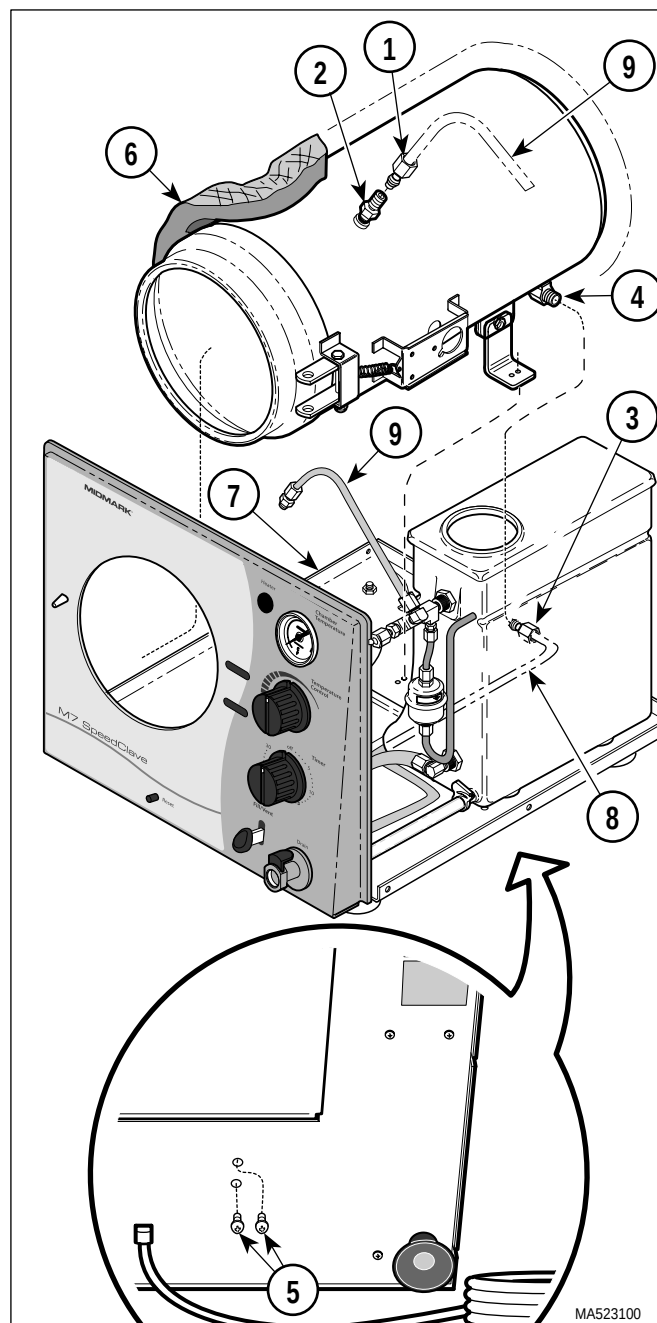
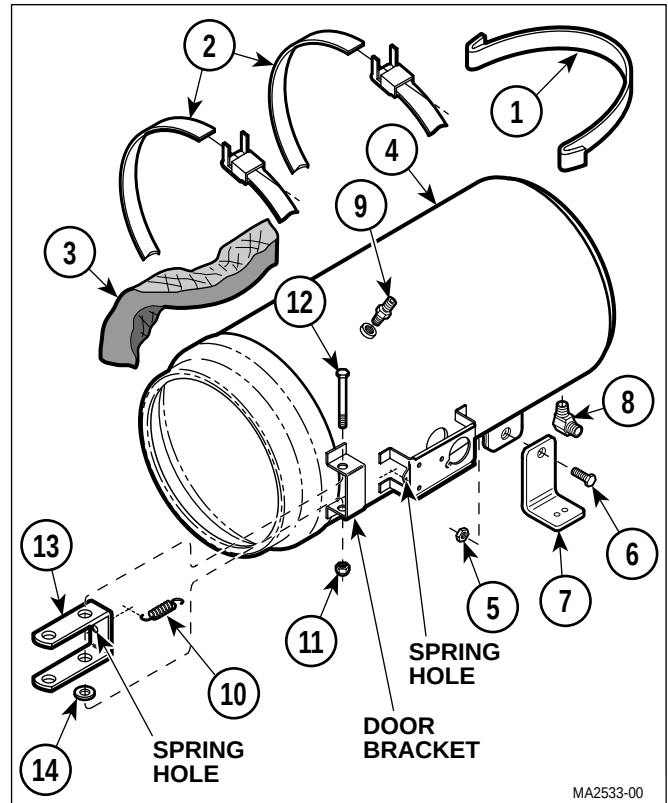

**Figure 4-21. Chamber Assembly
**Figure 4-22. Chamber Assembly
- (6) Remove temperature regulator relay (Refer to para 4.8).
- (7) Remove diaphragm cup (Refer to para 4.10).
- (8) Remove heating element (Refer to para 4.6).
- (9) Remove two overheat thermostats (Refer to para 4.7).
- (10) Loosen and disconnect compression nut (1, Figure 4-21) from male fitting (2).
- (11) Loosen and disconnect compression nut (3) from elbow fitting (4).
- (12) Remove two screws (5) and chamber assembly (6) from base (7).
- (13) Disconnect and remove one banding strap (1, Figure 4-22) and two banding straps (2) from insulation (3).
- (14) Remove insulation (3) from chamber (4).
- (1) Coat threads of nut (11, Figure 4-22) with removable threadlocking adhesive (Loctite 242).
- (2) Install washer (14), and hinge (13) on door bracket of chamber (4) and secure with screw (12) and nut (11).
- (3) Insert ends of spring (10) into spring holes.
- (4) Coat threads of fittings (8 and 9) with Teflon tape / sealant.
- (5) Install male fitting (9) and elbow fitting (8) on chamber (4).
- (6) Install chamber leg bracket (7) on chamber (4) and secure with screw (6) and nut (5).
- (7) Install insulation (3) on chamber (4). Secure insulation on chamber with two banding straps (2) and banding strap (1).
- (8) Install chamber assembly (6, Figure 4-21) on base (7) and secure with two screws (5).